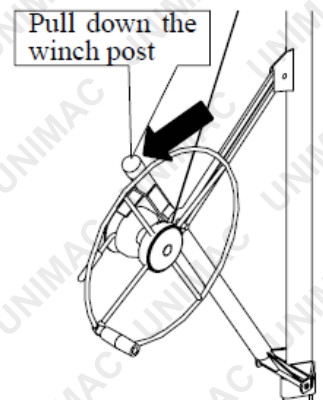

Fig. 7
- Hold the winch assembly and pull it towards you, as shown in Figure 7.